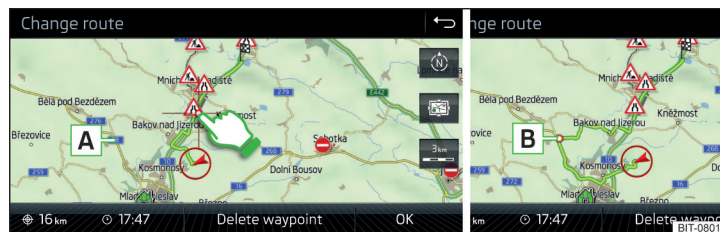

Fig. 220 Route change in the map / route transit point
- › Touch the screen in the route field and move the cross-point to the desired location on the map, e.g. **A**, move » Fig. 220).
The transit point **B** is added to the route » Fig. 220.